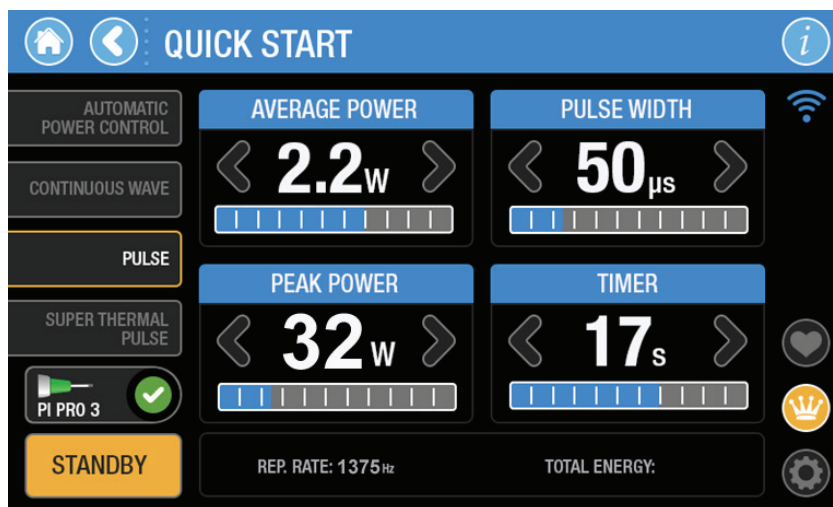

Figure 8.8
- Pulse Mode (Figure 8.8)
When the Pulse operating treatment mode is selected, Epic Pro delivers repetitive pulses. The peak laser power output can be increased or decreased by moving the power slider right or left. The peak output power is adjustable from 3W up to 150W, depending on the Pulse duration selected (Figure 8.8).